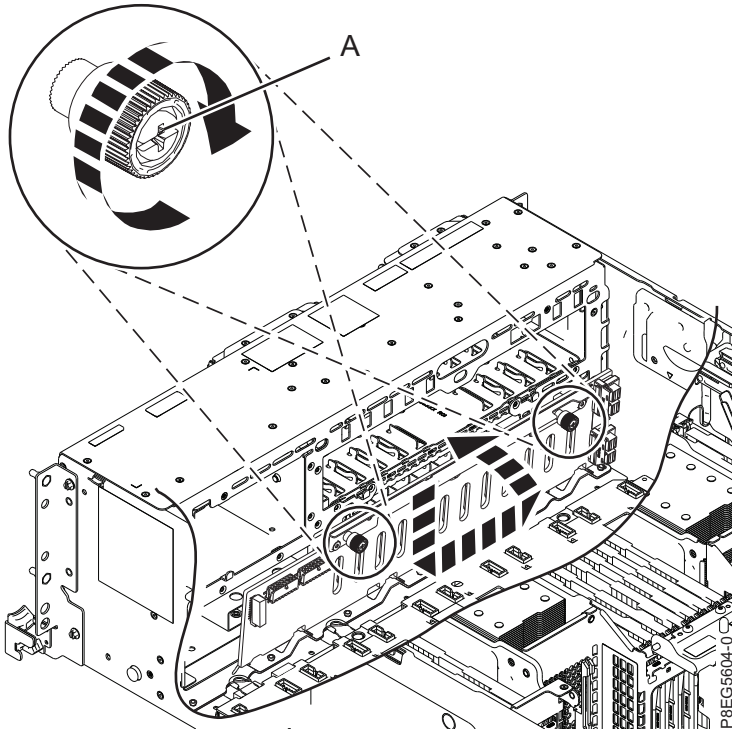

Figure 51. Replacing the disk drive backplane
33. Using the ledge at the top of the disk drive backplane and facing towards the front of the system, replace the backplane. Tilt it towards the rear and lower it down into the chassis. Align the backplane cutouts with the tabs in the chassis to insert it into the system. Slide the backplane to the side as is shown in Figure 51 on page 48.
34. Carefully tighten the captive thumbscrews (A) until each one is secured to the system's chassis.